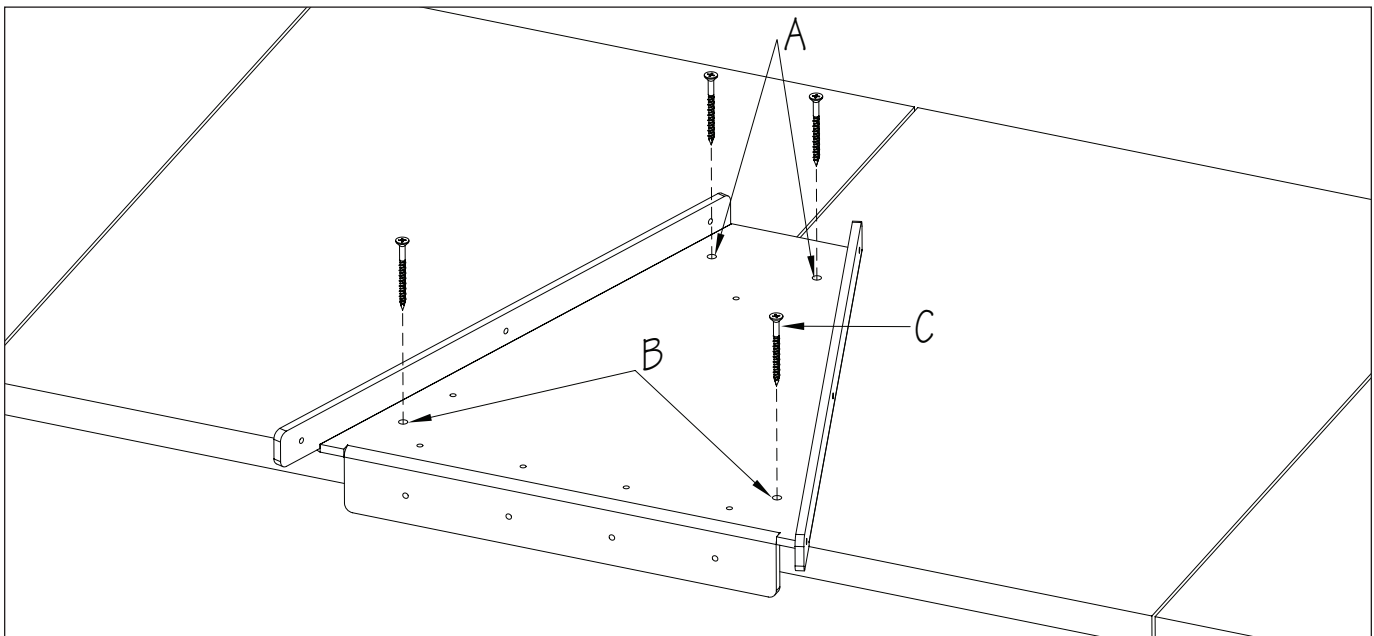

Fig. 15
2. Use the provided 5/32" (4mm) drill bit to drill the anchor holes into the pool deck approximately 2" (51mm) deep through the two holes in the rear of the plate (A). While these two anchor points are enough to secure the Fastlane Pro to the pool deck, additional anchor locations at the front of the plate (B) should be used when possible. Secure plate with provided Masonry Screws (C) (Fig. 15).